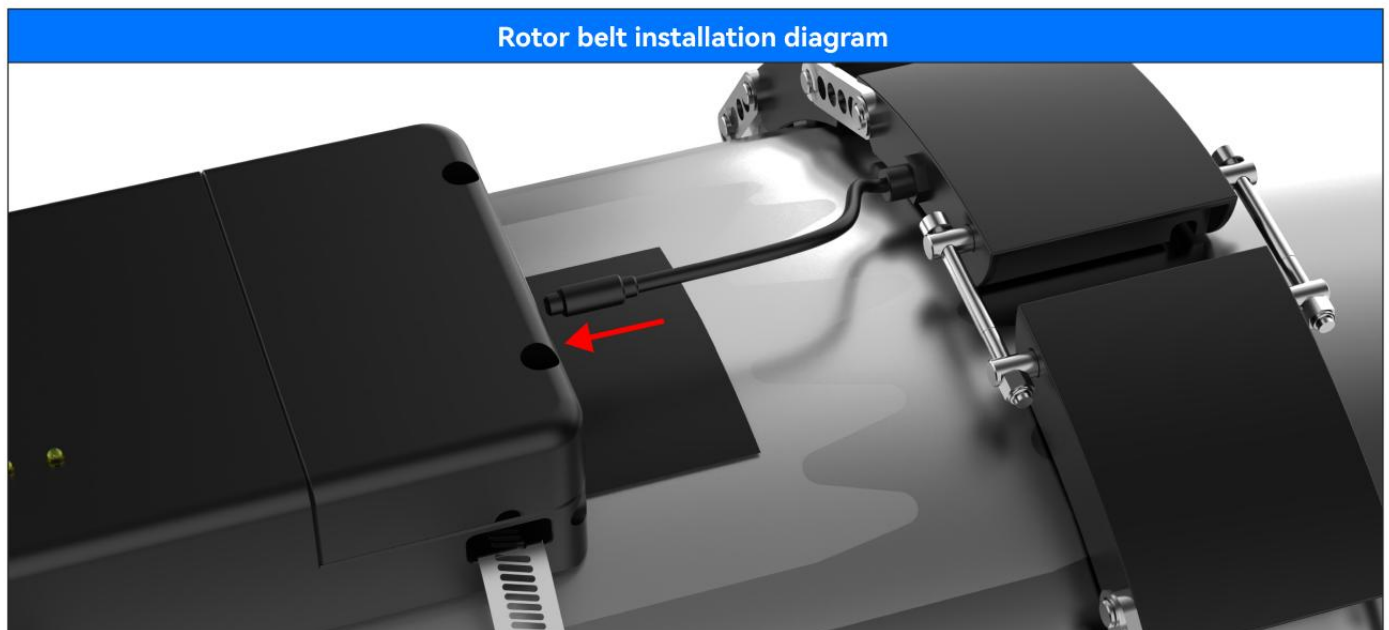

Figure 3.35
3. Insert the connector from the rotor assembly into the transmitter assembly, as shown in Figure 3.35.